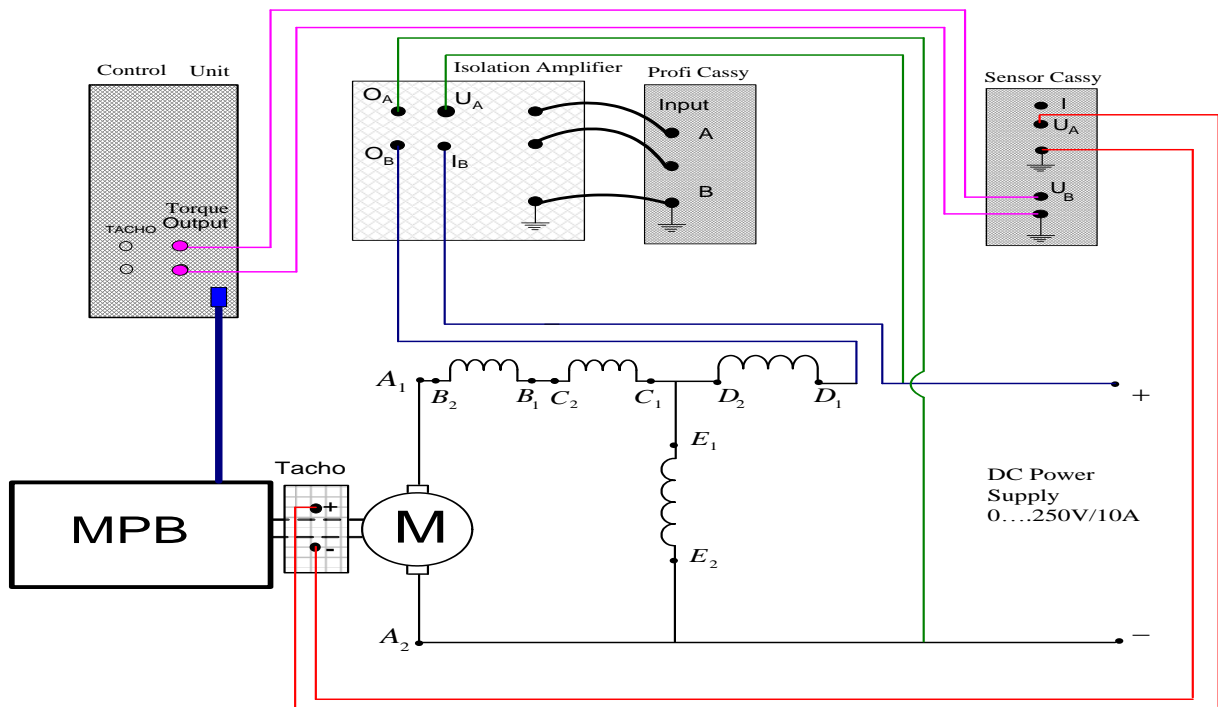
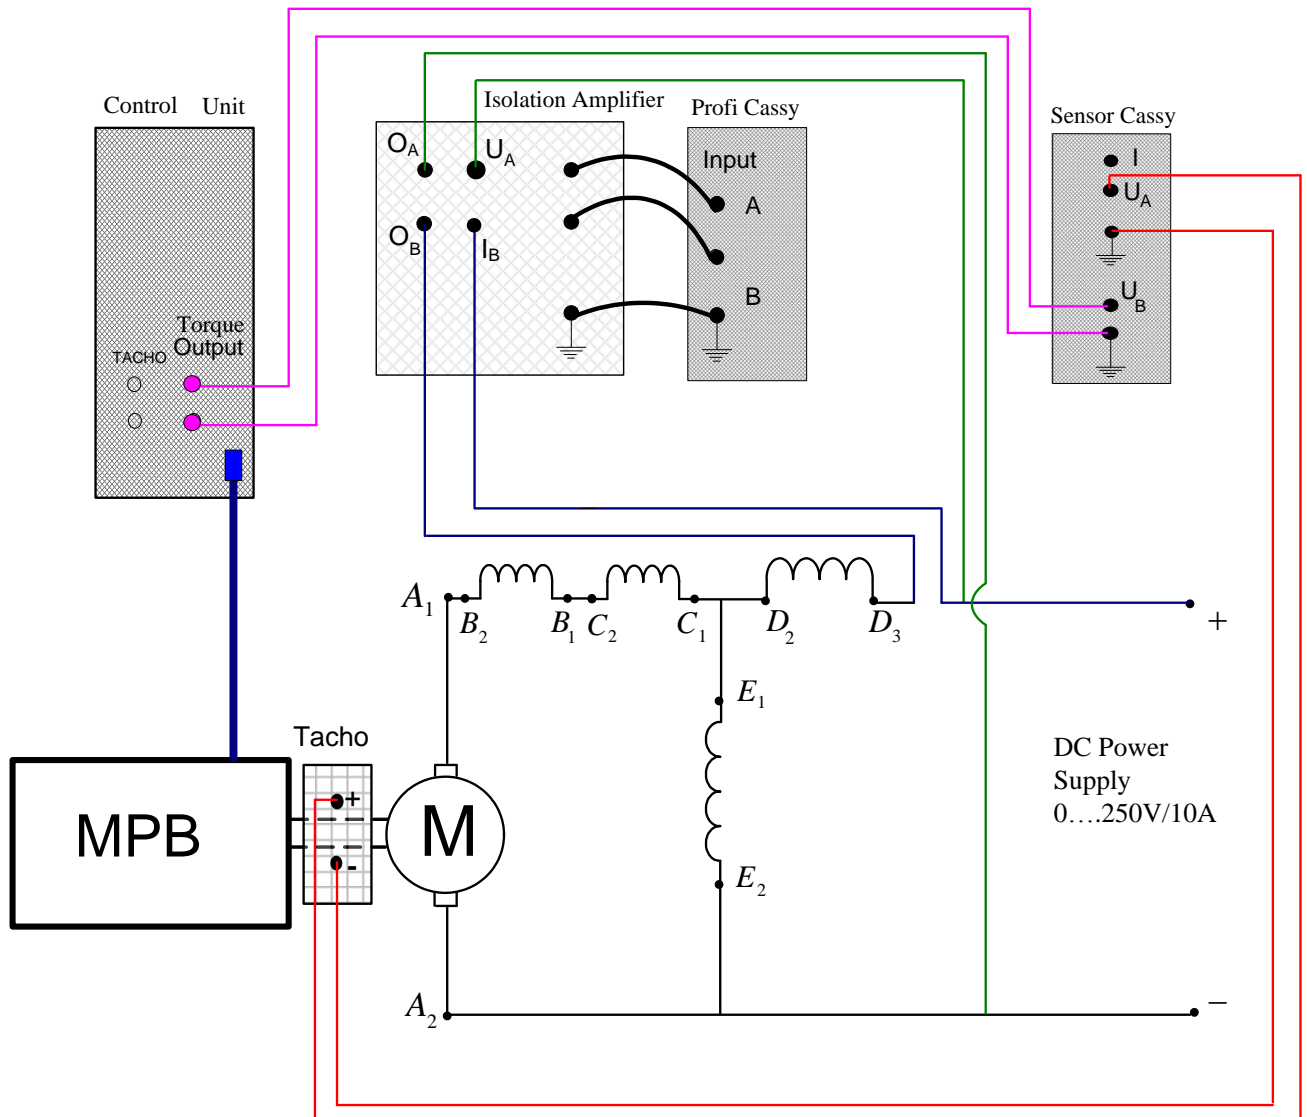

Figure 3: Cumulative Compound Motor Sep Up (D₁-D₂)
Figure 4: Cumulative Compound Motor Sep Up (D₃-D₂)
21. Connect the circuit as shown in Figure 3 using Cassy measurement Connection for the indicated source current, applied voltage, rotor speed and applied torque
23. Replace D₁-D₂ connection of figure 3 by D₃-D₂ as shown in Figure 4.